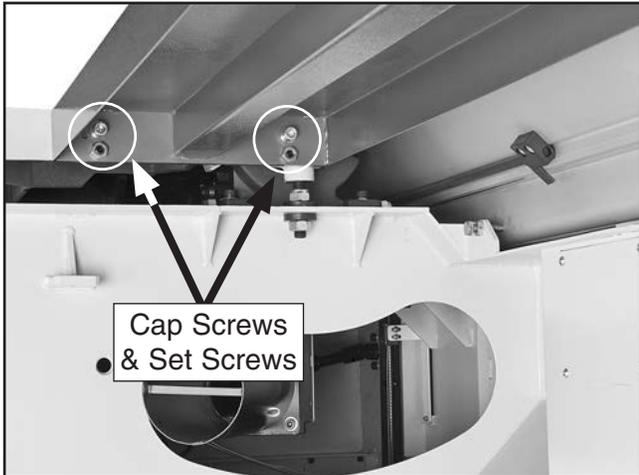

Figure 27. Forward extension wing attached (as viewed under the wing).
25. With the help of another person to hold the forward extension wing, attach it to the cast iron table with (2) M10-1.5 x 25 cap screws, 10mm lock washers, and 10mm flat washers, as shown in **Figure 27**.
27. Thread (5) M10-1.5 x 20 set screws into the threaded holes under each of the extension wing cap screws on both wings (see **Figures 27–28**).